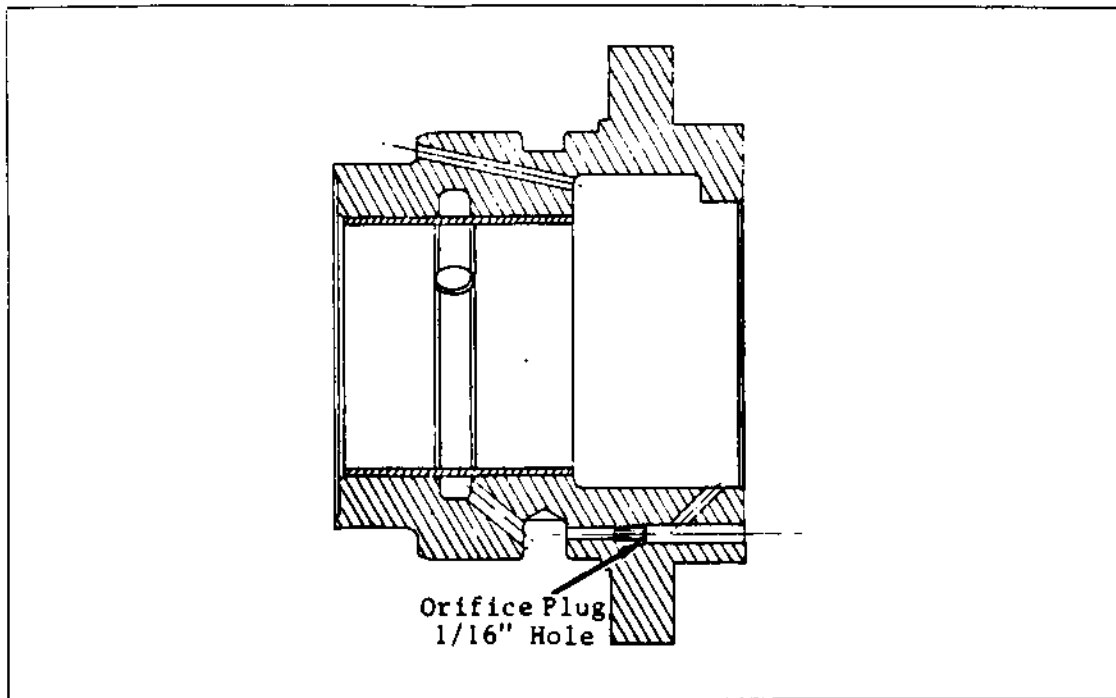

FIGURE 10 - Seal End Bearing Head Plug
- (4) Orifice plug left out of seal end bearing head (open compressor). Seal cover must be removed to observe excess oil flow and to visually inspect if orifice plug is installed. See Figure 10.